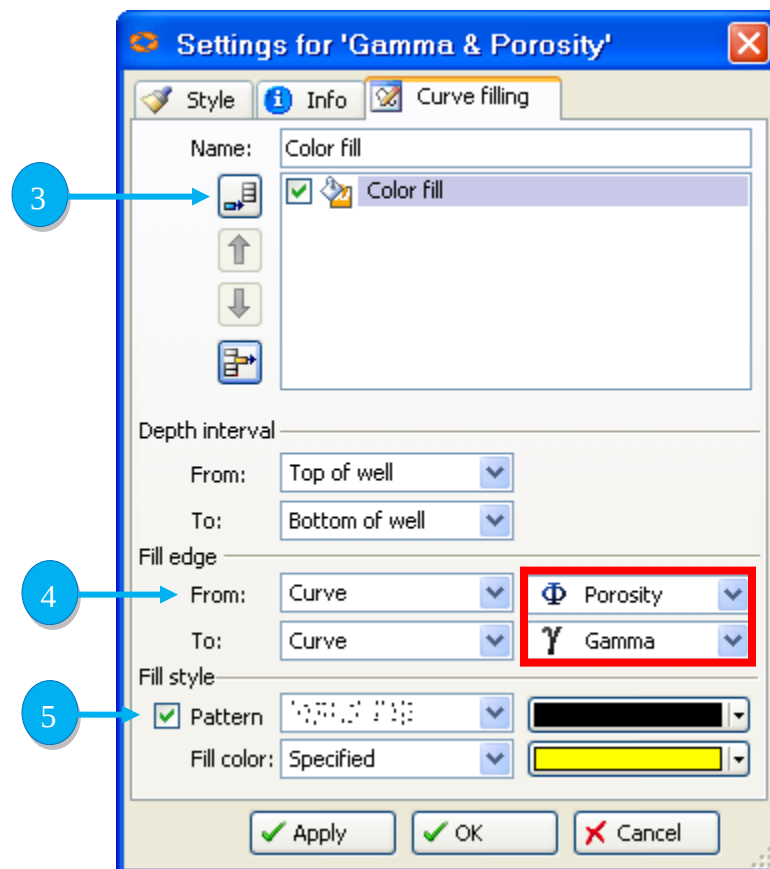

Fig.10.16: Settings for **Gamma & Porosity**
3. Enter a new interval and specify the interval to be filled as shown in Fig. 10.16.